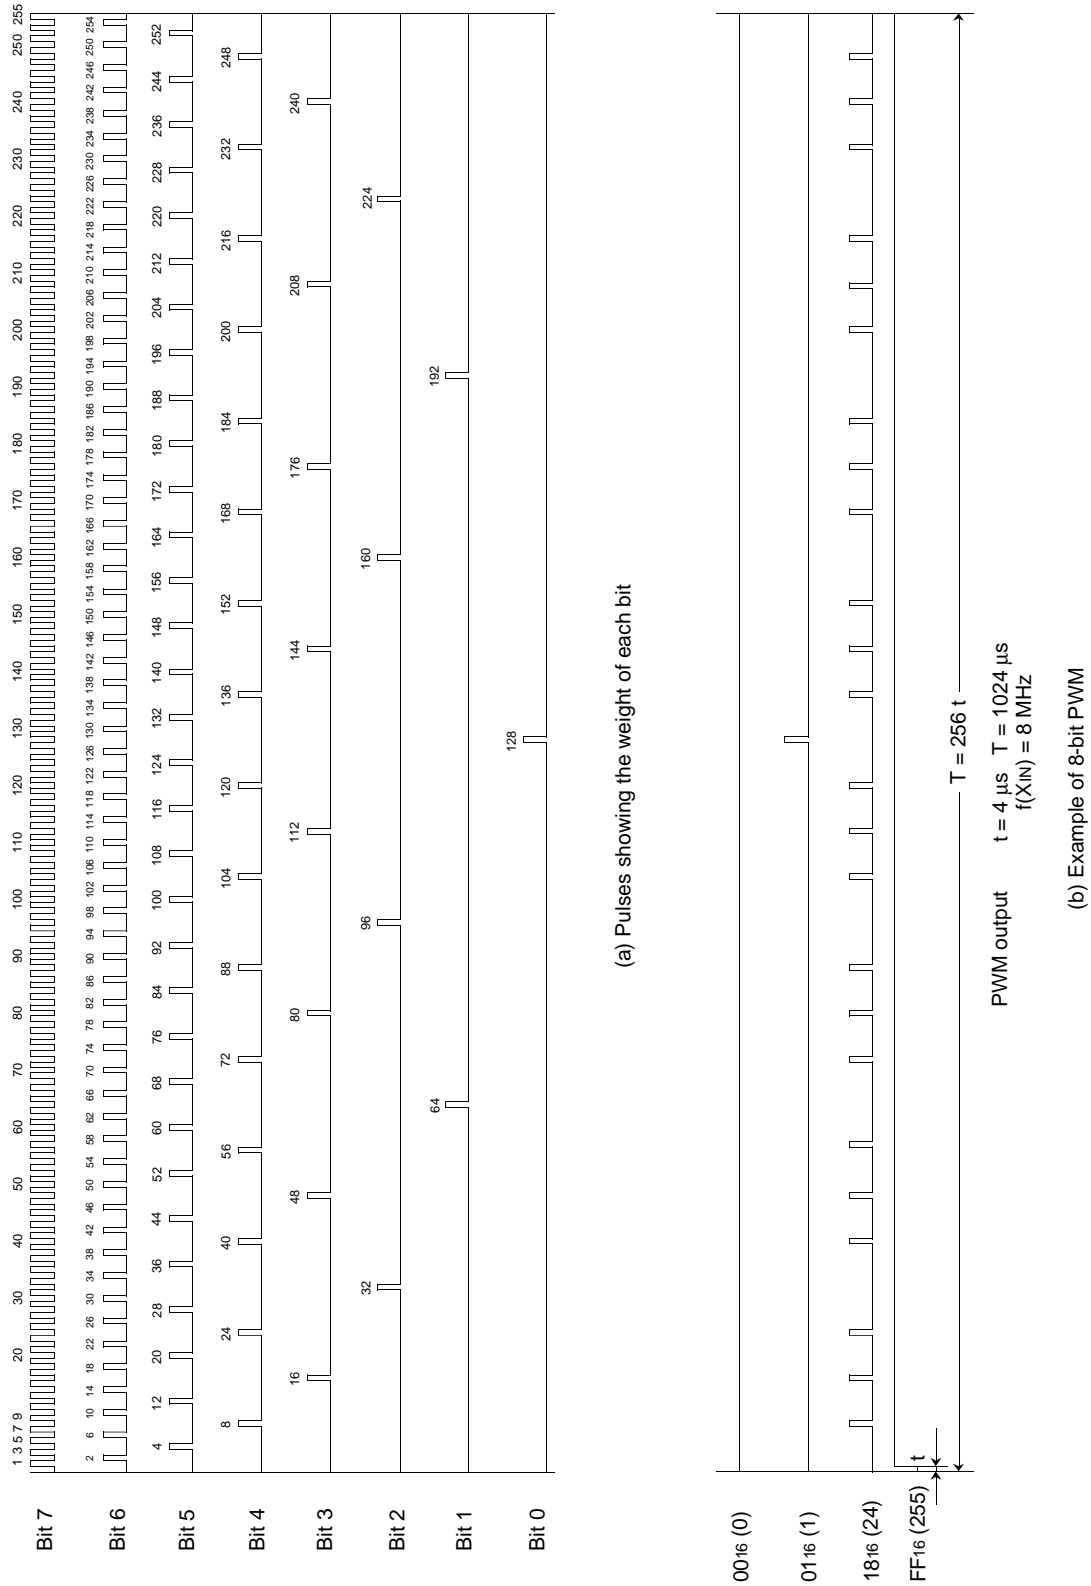

Fig. 22. 8-bit PWM Timing
Figure 22 shows the 8-bit PWM timing. One cycle (T) is composed of 256 (2^8) segments. The 8 kinds of pulses relative to the weight of each bit (bits 0 to 7), are output inside the circuit during 1 cycle. Refer to Figure 22 (a). The 8-bit PWM outputs waveform which is the logical sum (OR) of pulses corresponding to the contents of bits 0 to 7 of the 8-bit PWM register. Several examples are shown in Figure 22 (b). 256 kinds of output (HIGH area: 0/256 to 255/256) are selected by changing the contents of the PWM register. A length of entirely HIGH cannot be output, i.e. 256/256.
(4) Output after Reset